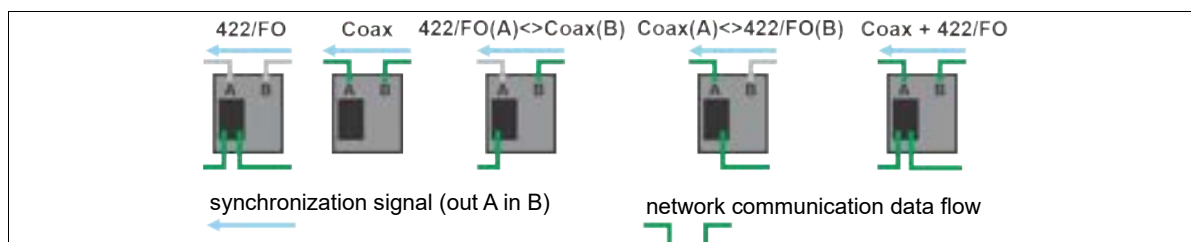

Figure 77: FlexZone network connections
2. Specify the Connection scheme for network communications (see Figure 77:).